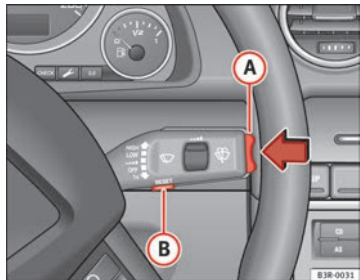

Fig. 58 Windscreen wiper lever: Function selector switch
- To change the speed limit, press the top or bottom of the function selector switch on the windscreen wiper lever **(A)** ⇒ fig. 58. The speed limit displayed will then increase or decrease by 10 km/h at a time.
- Now press and hold the Reset button on the windscreen wiper lever **(B)** ⇒ fig. 58 until the crossed out warning symbol for speed limit 2 appears on the display.